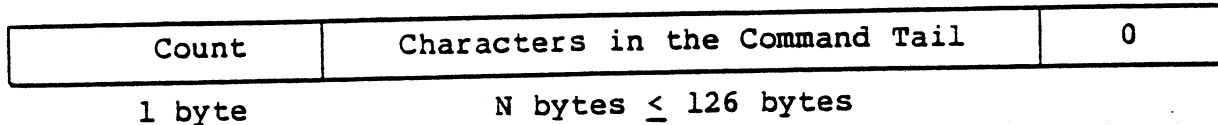

Figure 2-1. Format of the Command Tail in the DMA Buffer
The CCP parses up to two filenames following the command in the input command line. The CCP places the properly formatted FCBs in the base page. The default DMA address is initialized at an offset of 0080H in the base page. The default DMA buffer occupies the second half of the base page. The CCP initializes the default DMA buffer to contain the command tail, as shown in Figure 2-1. The CCP invokes the BDOS Program Load Function (59) to load the transient program before the CCP parses the command line.
A transient program invokes the BDOS Program Load Function (59) to load an additional program. The BDOS Program Load Function allocates space and initializes base page values at offsets 0000H through 0024H for the program as described in Section 2.2.1. The transient program must initialize the base page values that the CCP normally supplies, such as FCBs, the DMA address, and the command tail, if the program being loaded requires these values. The command tail contains the command parameters but not the command. The format of the command tail in the base page consists of a 1-byte character count, followed by the characters in the command tail, and terminated by a null byte as shown in Figure 2-1. The command tail cannot contain more than 126 bytes plus the character count and the terminating null character.